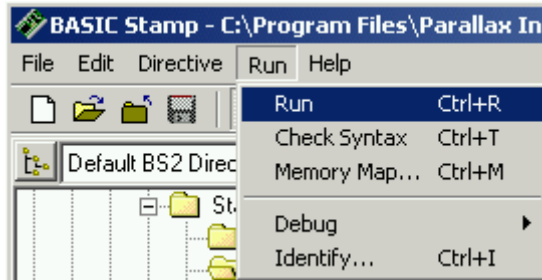

Figure 1-39
- ✓ Click *Run*, and select *Run* from the menu that appears (by clicking it) as shown in Figure 1-39.
- ✓ Run your modified program. Hint: you will have to either click *Run* from the Run menu again, like in Figure 1-39 or click the *Run* button, like in Figure 1-41.